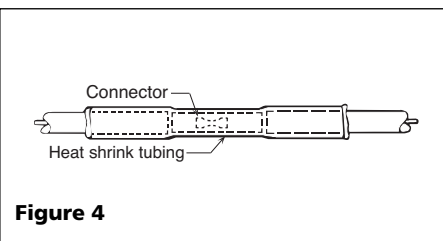

Figure 4
**NOTICE** *Keep torch moving. Too much concentrated heat may damage tubing (see Figure 4).*